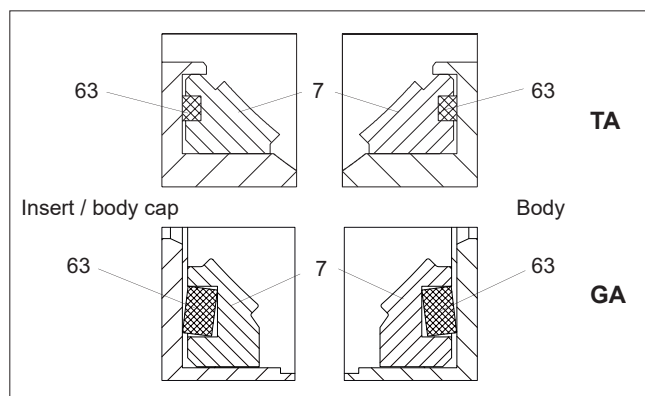

Fig. 20 S seats
- Place the back seal (63) in the ball seat (7); see Fig. 20. Place the seat in the body (1).